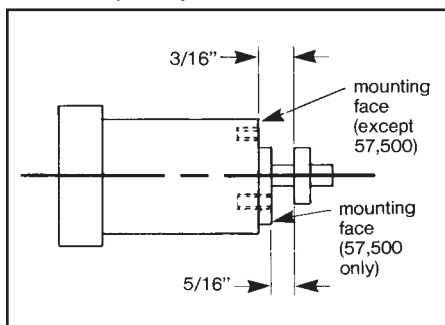

Figure 3
2. Use a key (not supplied) tight fitting and full axial length of hub (16). Slide hub on shaft positioning inboard face of hub about 3/16" from mounting face or at 5/16" for 57,500 Series. See Figure 3. Securely tighten both hub set screws (16S) with torque of 78 in-lbs on 1/4" and 156 in-lbs on 5/16". Recommended practice is to drill a set screw dimple into shaft, especially on vertical installation.